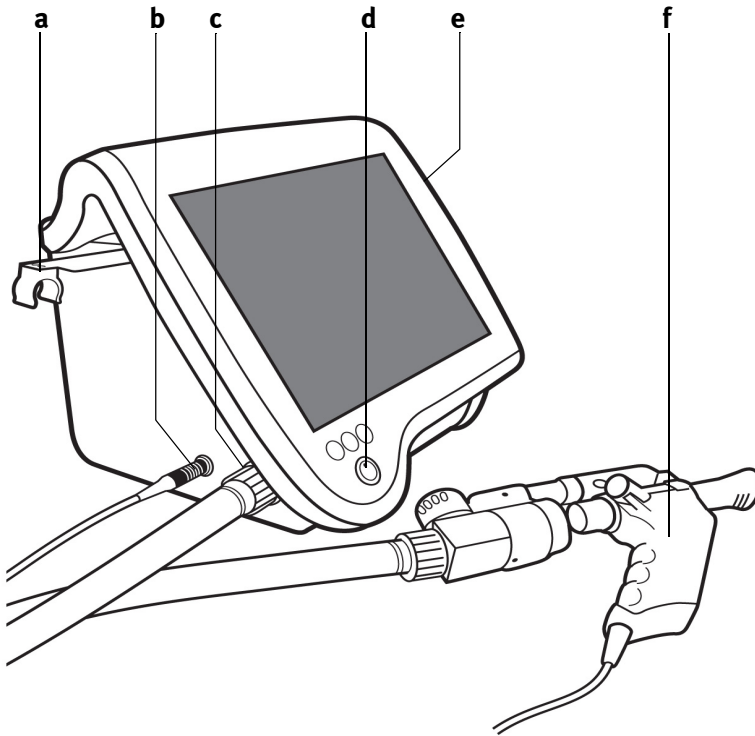

Fig. 2-1 EasyOne Pro™
- Pull out the sensor holder on the left side of the device (**a**, Fig. 2-1) and place the sensor in the holder.